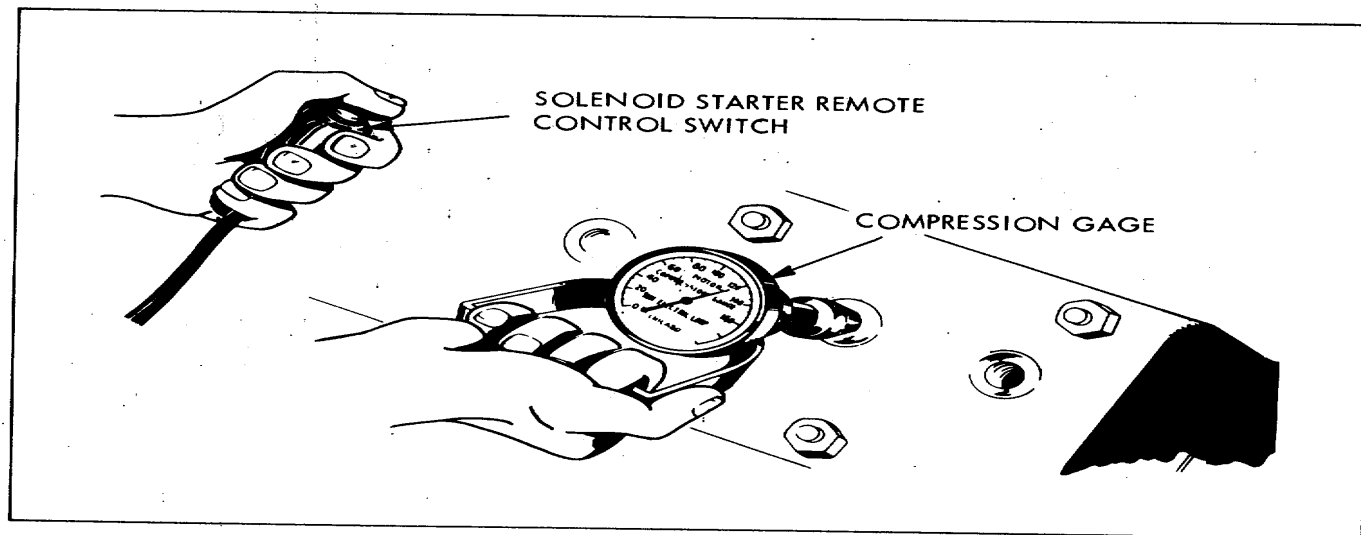

Figure 6-28. Compression Test
(c) Insert compression tester in spark plug hole (using adapter if necessary) (figure 6-28) and crank engine for at least four compression strokes. Note reading on first full stroke as well as on final stroke. (See test indications (2) below.)